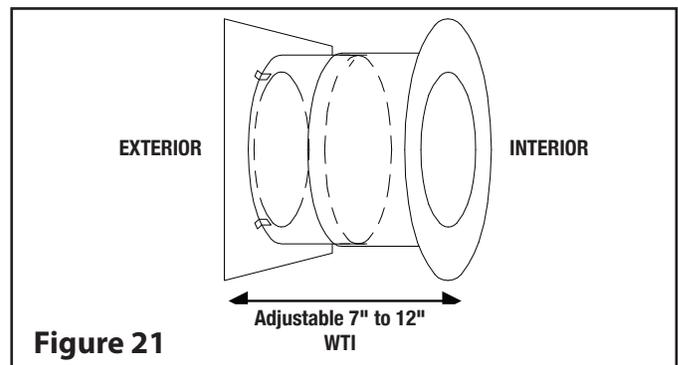

Figure 21
Step 2. Wood walls: Place the exterior half of the Wall Thimble (WTI) in the opening from the outside. Nail in place using (4) 2" nails or 1" screws. This Wall Thimble is adjustable from 7" to 12" (see Figure 21). Make sure the insulation pad is cut to the desired length according to the wall thickness. Place the interior half of the Wall Thimble inside the exterior half of the Wall Thimble. For a wall requiring more than 12", a shield extension can be field fabricated using galvanized sheet metal 26 gauge minimum.